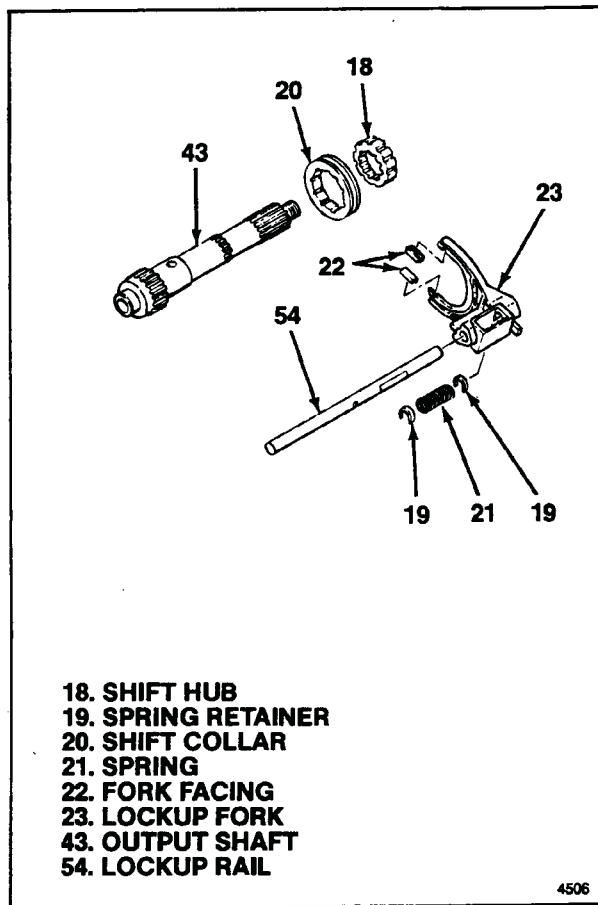

Figure 5-14. Lockup Shift Parts
5-13. INSTALLING LOCKUP SHIFT PARTS. To assembly as completed thus far (24 through 93) install parts as follows (see figure 5-14):
- a. Install magnet (17) in slot in transfer case (93).
- b. Apply continuous 1/16 in. (1.6 mm) bead of sealant (Silastic RTV No. 732 or General Electric Silmate RTV No. 1473) all around transfer case (93) mounting face for cover assembly (12). Center sealant bead between edges of face. Circle or lay double thickness sealant bead through bolt holes.
- c. Install cover assembly (12) on transfer case (93), aligning dowel pins (92) and guiding output shaft (43, figure 5-14) through cover. It may be necessary to use screwdriver to position lockup rail (54, figure 5-14) to enter hole in cover.
- e. Install speedo gear (8) over spline of output shaft (43, figure 5-14), into cover assembly (20).
- f. Install two plugs (7) and torque to 10-20 lb-ft (13.6-27.1 Nm).
- g. Install 4WD switch (6) and torque to 8.0-12.0 lb-ft (10.9-11.3 Nm).